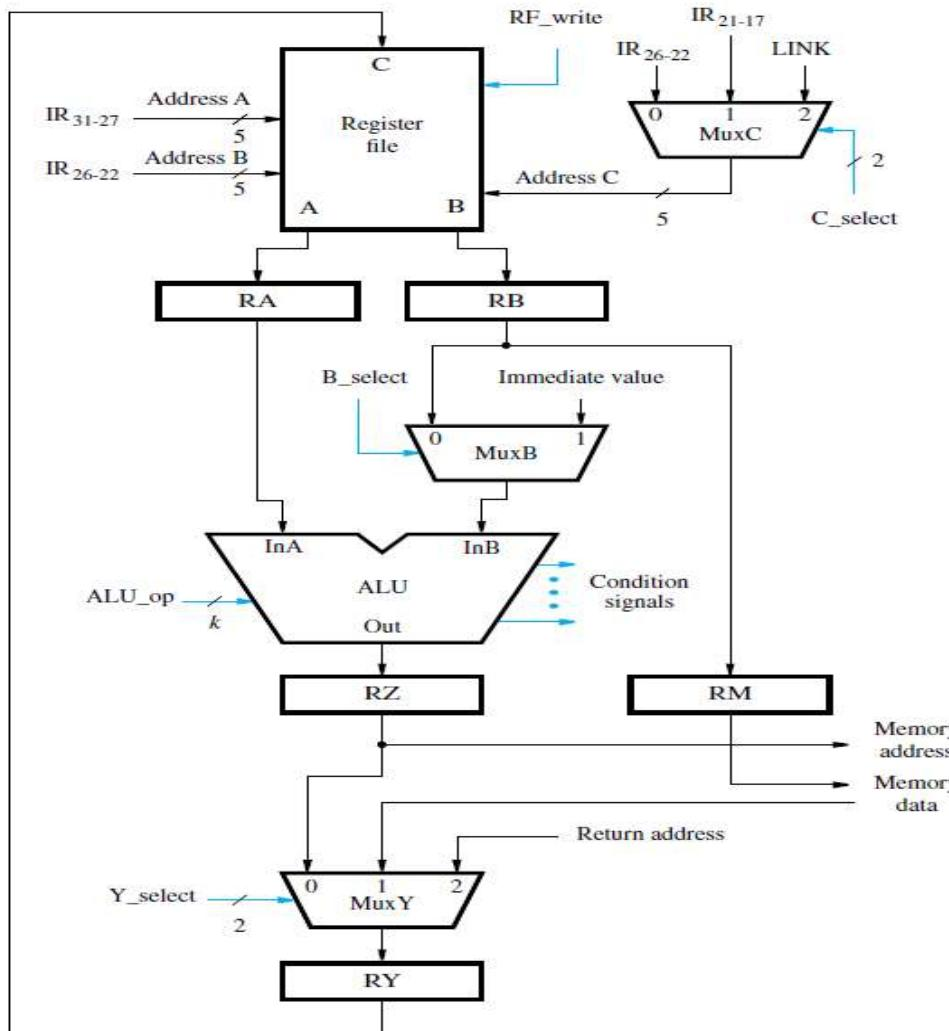

Figure 5.18 Control signals for the datapath.
■ Figure 5.18
■ Part of Figure 5.18
Part of Figure 5.18 (ctd.)
■ Part of Figure 5.18 (ctd.)